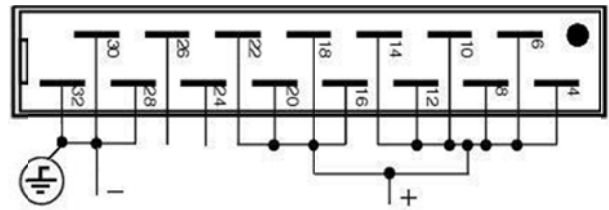

Figure 12. Output to case isolation voltage test.
4. Connect your isolation tester between output and case. See *Figure 12*. Raise the voltage of the isolation tester from 0 to 2000 Vd.c. (With option E2 0 to 4000 Vd.c.) Check that the leakage current does not exceed 5µA. The voltage should not be applied for more than a few seconds or the Y-capacitors might be damaged.
4. Connect your isolation tester between output and case. See *Figure 12*.
5. Raise the voltage of the isolation tester from 0 to 2500 Va.c. The voltage should not be applied for more than one (1) minute or the Y-capacitors might be damaged.